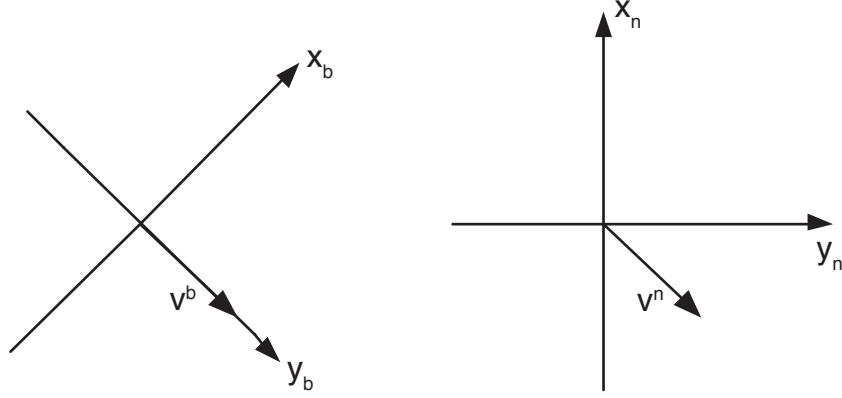

Figure 2: The same vector in different frames.
Example 1 (Rotation of a vector) Let $\psi = \frac{\pi}{4}$ and $\mathbf{v}^b = [0 \ 1]^T$. Carrying out the calculation as described in (1) yields a vector $\mathbf{v}^n = [-\frac{1}{\sqrt{2}} \ \frac{1}{\sqrt{2}}]^T$. Figure 2 depicts the two vectors. The transformation from NED to BODY can be carried out to see that $\mathbf{v}^b = [0 \ 1]^T$.